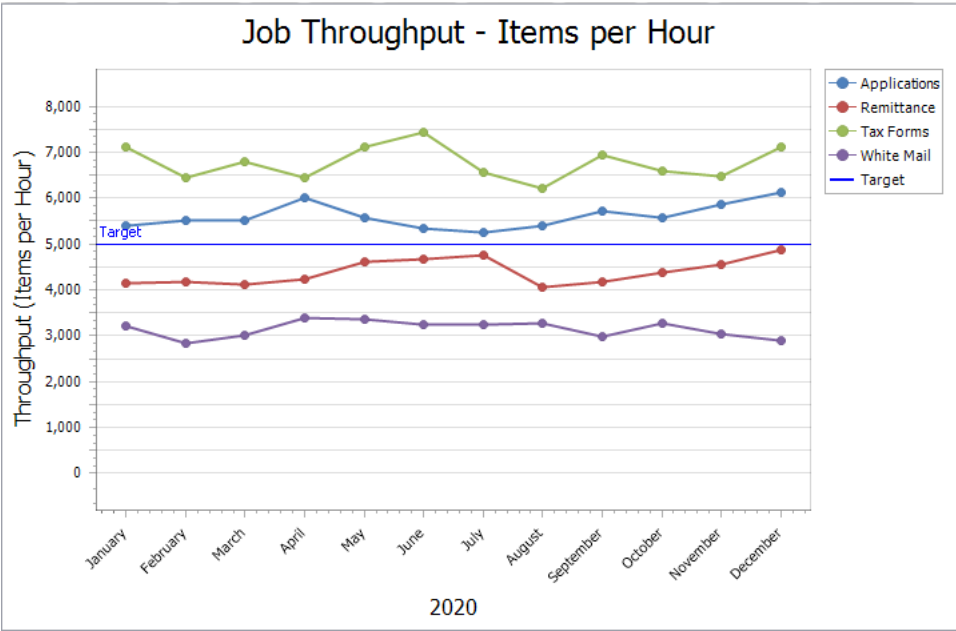

Figure 5-26: Target line
10. The target line will be displayed on the graph if all the jobs selected have the same target value, as shown in Figure 5-26.